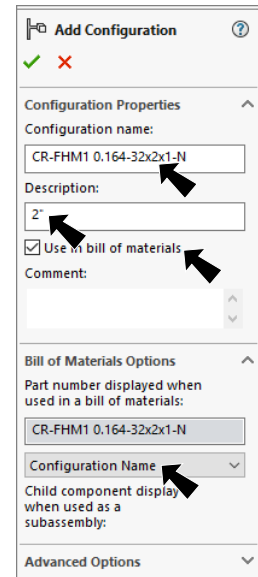

Fig. 9
Step 2. In the Add Configuration Manager set under Configuration name, **Fig. 9**